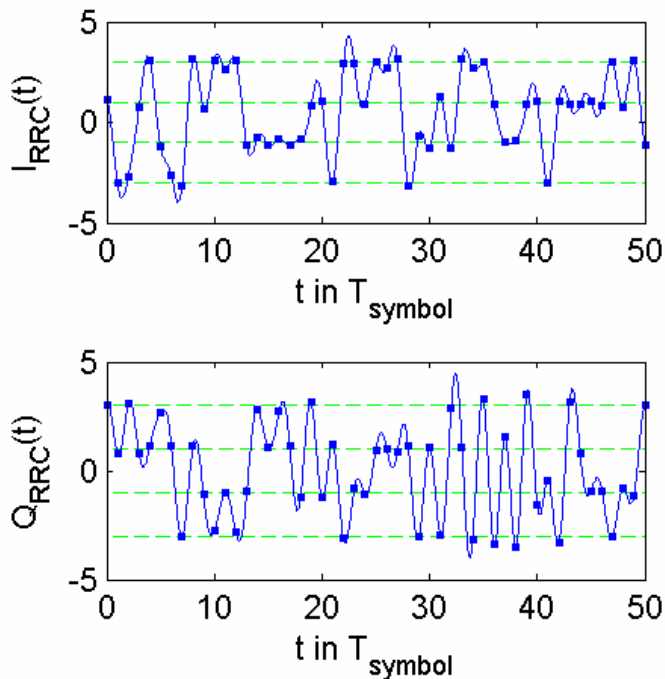

Fig. 2-47 Root raised cosine filtered dirac signals $I_{RRC}(t)$ and $Q_{RRC}(t)$
In a cable TV receiver, a filter of the same shape is used as RX filter. The combination of two root raised cosine filters, one in the transmitter (TX) and another one in the receiver (RX), has a very strong property: There will be no inter-symbol interference at the RX filter's output. Due to this property it is very easy for the receiver to retrieve the transmitted symbols. Please note, that in a real-world scenario the channel (causing echoes / multipath propagation) causes inter-symbol interference. In that case the use of an equalizer is recommendable. Fig. 2-47 shows the signals $I_{\text{RRC}}(t)$ and $Q_{\text{RRC}}(t)$ that result from filtering $I_{\text{dirac}}(t)$ and $Q_{\text{dirac}}(t)$ with the root raised cosine filter **RRC**.